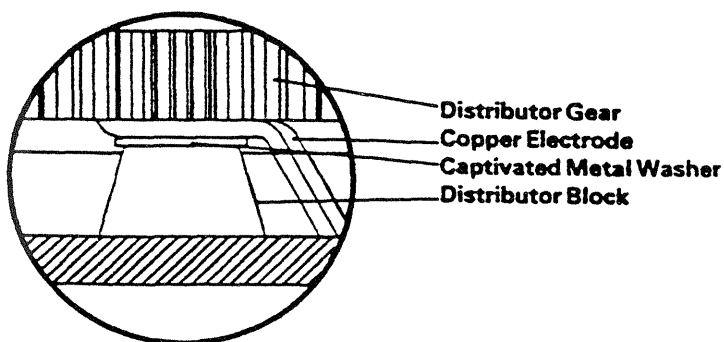
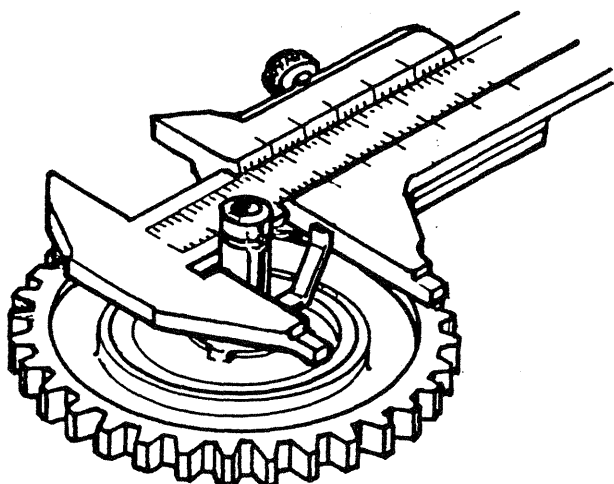

Figure 701
Figure 703. Checking Distributor Gear Electrode Wear
7.2.2 Inspect Distributor Gear (72)
- A. Determine if gear is of old or new design. Very old gears are dark brown laminated phenolic. Old nylon gears use a captivated washer. See Figures 701 and 702. If gear is of old design, discard gear and replace with new type.
- B. If distributor gear (72) is of new design, inspect gear for excessive wear or damage. If gear teeth, axle or electrode are excessively worn or damaged, or there is any evidence of looseness between axle and gear or electrode and gear, gear must be replaced. If electrode surface is slightly carbonized, smooth off with a nylon scouring pad.
- C. Wipe gear (72) free of all oil film and other contaminants.
- D. Check for wear of gear (72) electrode. With vernier calipers or a micrometer applied as shown in figure 703, electrode must measure $.933 + .000 - .023$ in. If electrode is worn beyond specifications, replace gear (72).